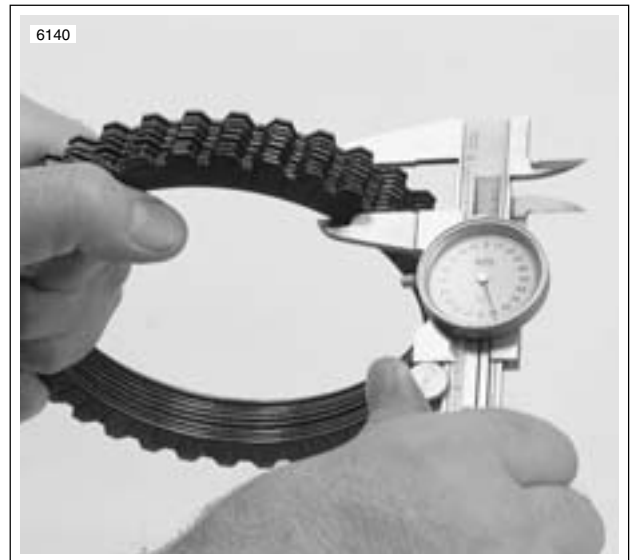

Figure 6-17. Measuring Friction Plates
- b. Inspect each steel (drive) plate (19) for grooves.
2. Check the diaphragm spring (11) for cracks or bent tabs. Install a **new** spring if either condition exists.
3. See Figure 6-17. Check fiber plates for thickness.